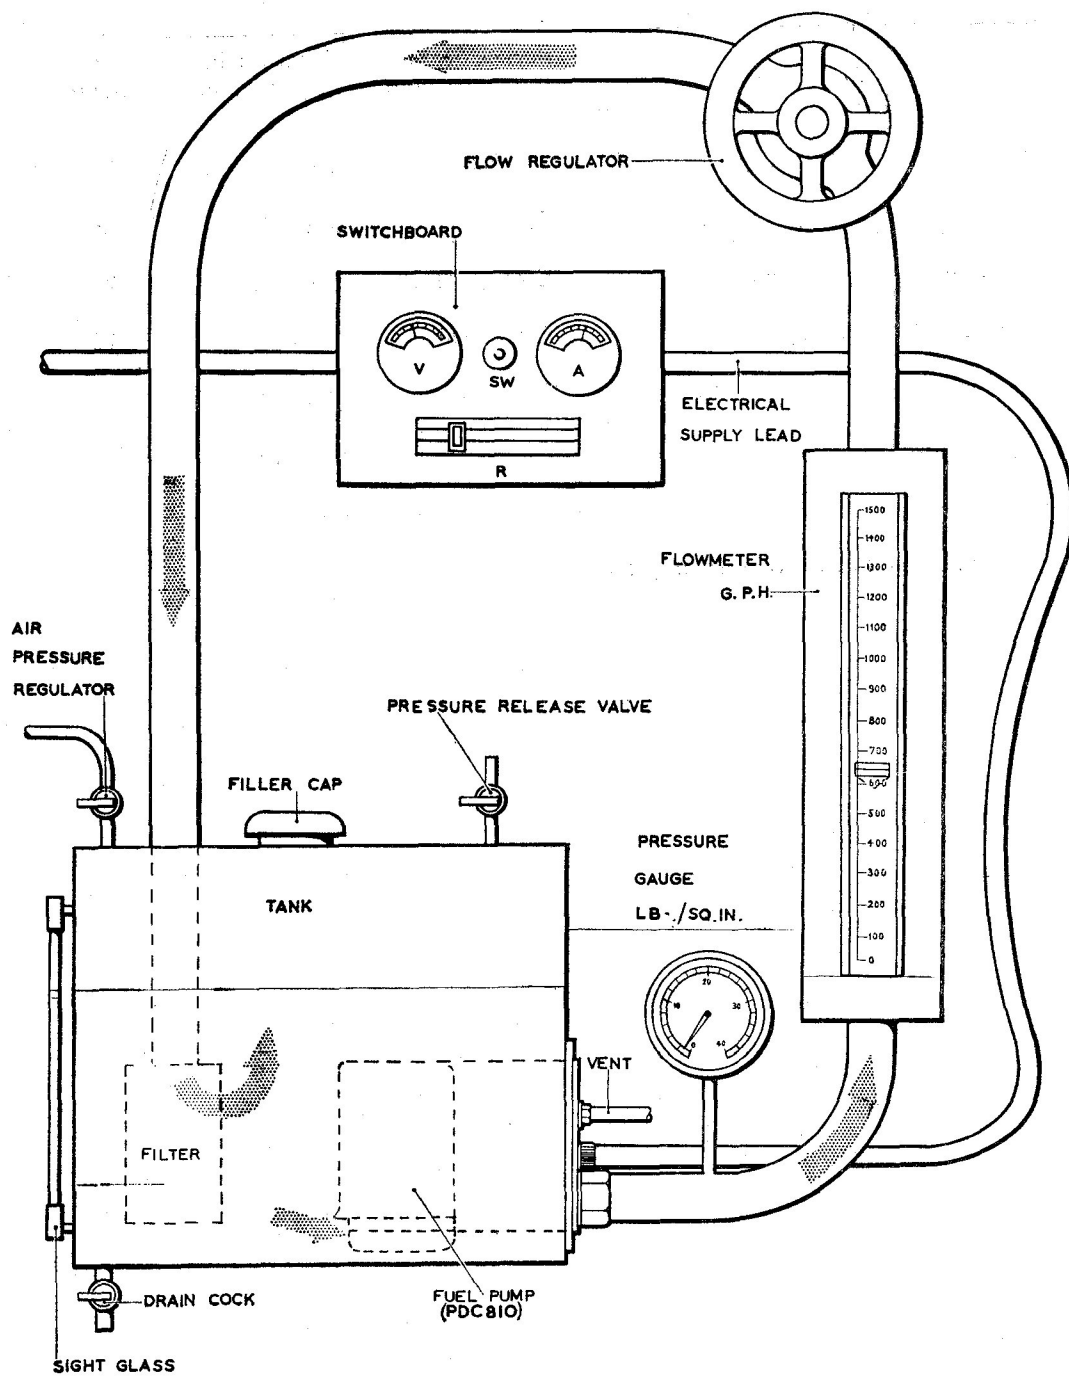

Fig. 9. Test rig
50. The assembled pump shall start satisfactorily when 16 volt d.c. is applied. For this test the pump shall be fully primed and completely submerged. The test shall be at low altitude fast speed. A suitable test rig is shown fig. 9.